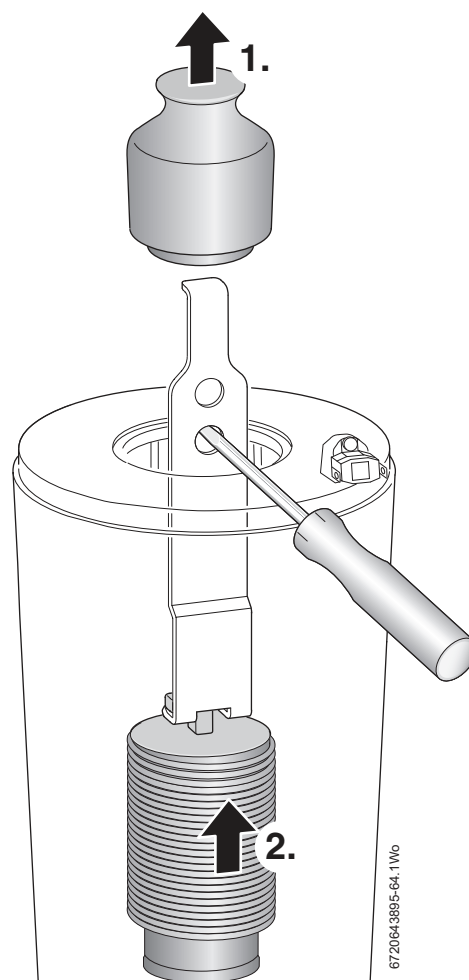

Fig. 88 Baffle removal
Refer to figure 88.
If the lower baffle is stuck, it may be necessary to use the "baffle removal tool" from the heat exchanger cleaning kit - 7 716 192 312, as shown in figure 88.
The baffles (1) and (2) must be refitted into the heat exchanger in the order shown in figure 88. Failure to do so may result in damage to the boiler.